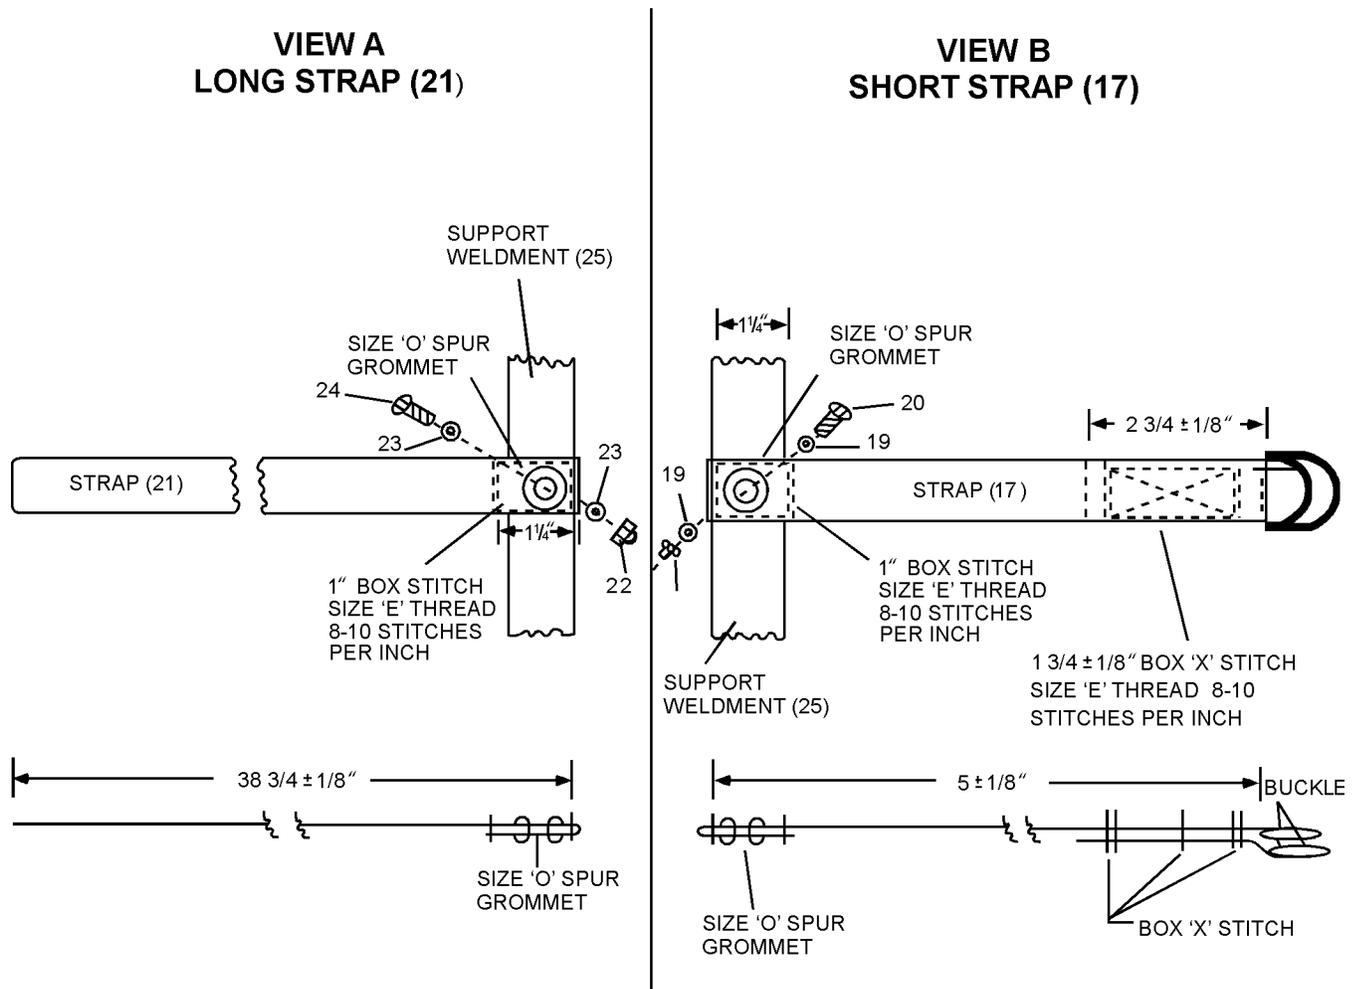

Figure 12-4. Short and Long Strap
1. Fabricate short strap assembly (17) as per figure 12-4, view B.
2. Fabricate long strap assembly (21) as per figure 12-4, view A.